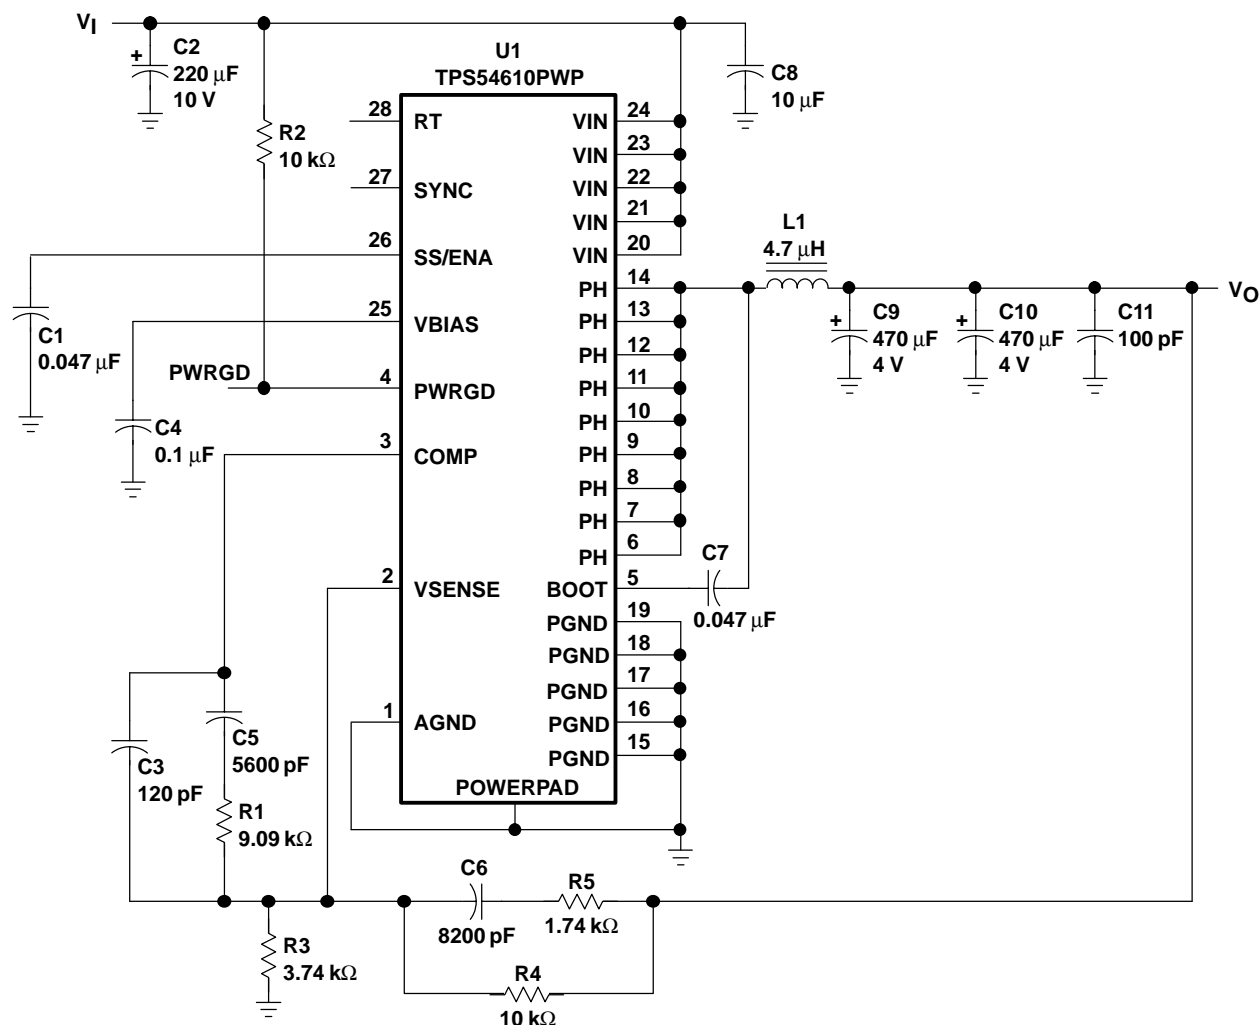

Figure 10. Application Circuit
(1) Specified by design
(2) Static resistive loads only
(3) Specified by the circuit used in Figure 10
⁽³⁾ Specified by the circuit used in Figure 10
Figure 10 shows the schematic diagram for a typical TPS54610 application. The TPS54610 (U1) can provide greater than 6 A of output current at a nominal output voltage of 3.3 V. For proper thermal performance, the